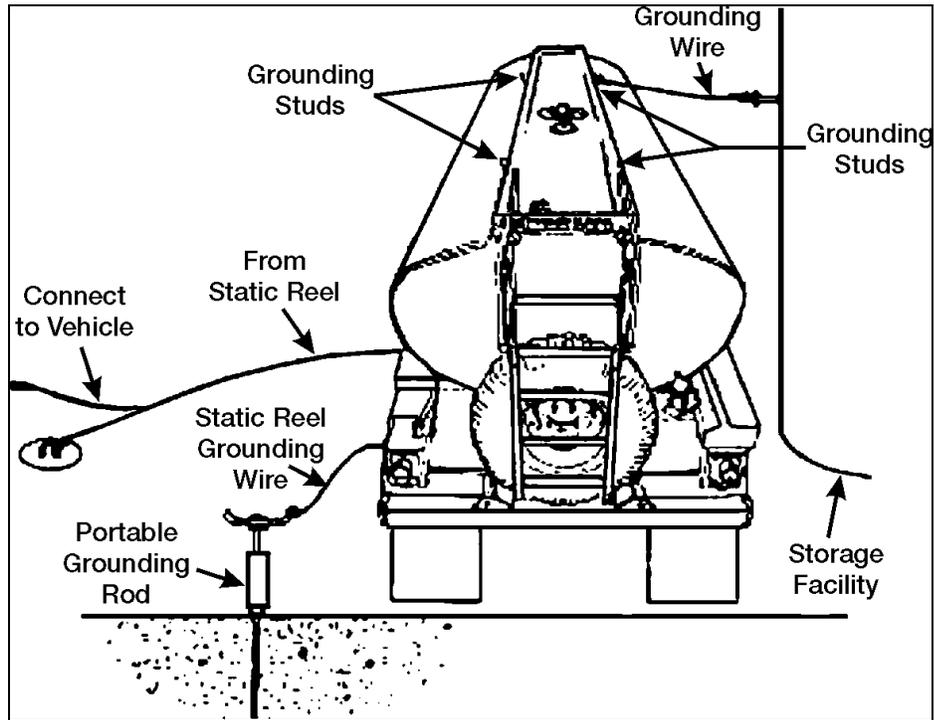

Figure 3-67. Typical Grounding Connections
- (3) Ground and bond vehicle (see Figure 3-67).
- (4) Remove fire extinguishers and bring them to the point of operation.
- (5) Ensure engine fuel tank has enough fuel for operation.
- (6) Remove engine dipstick and check oil level. Refill as needed.
- (7) Check air cleaner restriction indicator. Clean or replace filter element as needed.